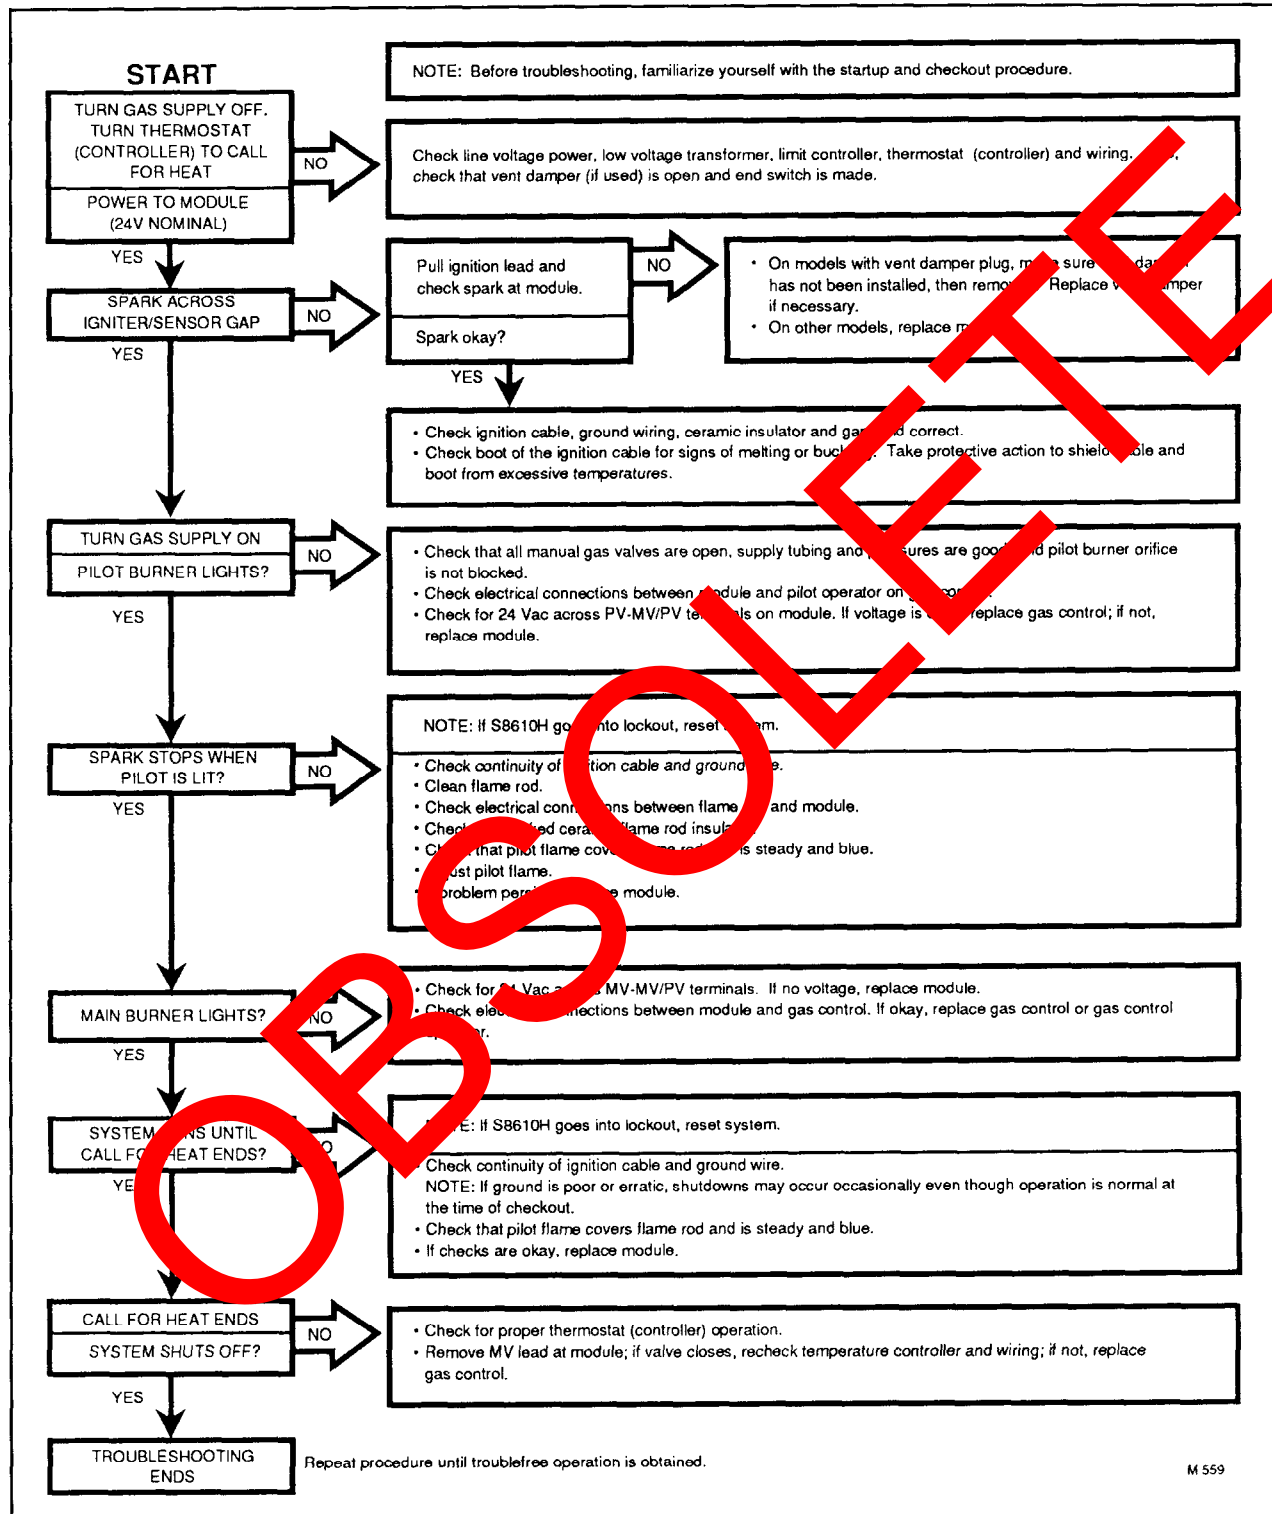

FIG. 19—S8610 TROUBLESHOOTING GUIDE.
- If main burner doesn't light or if main burner lights but system locks out, check module, ground wire, and gas control as described in the troubleshooting chart, Fig. 19.